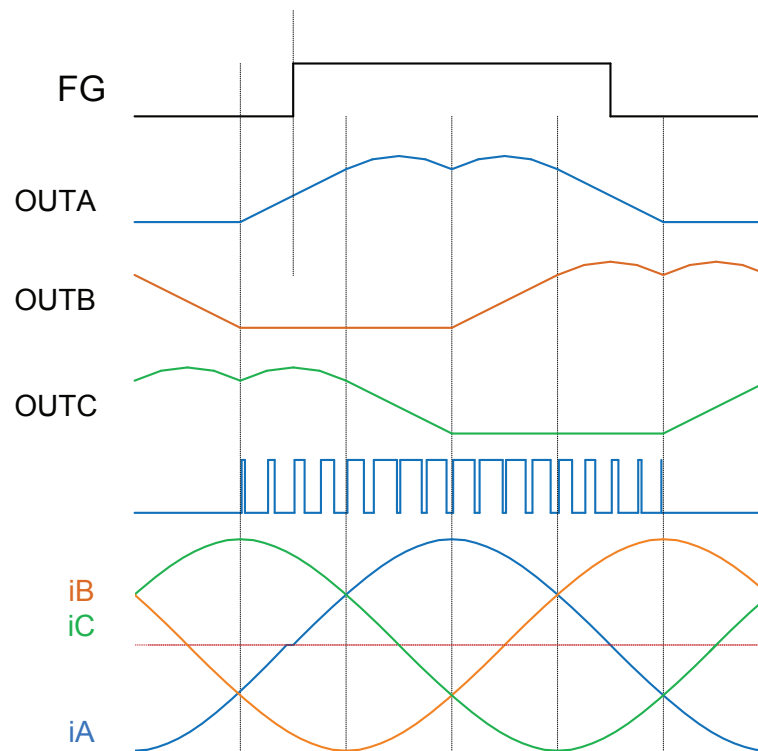

Figure 1: Sinusoidal PWM
This 9-bit "demand" is applied to a PWM generator block to create the modulation profile. The modulation profile is applied to the three motor outputs, with 120-degree phase relationship, to create the sinusoidal current waveform as shown in Figure 1.
**FG.** Open-drain output provides speed information to the system. For the default setting, FG changes state one period per electrical revolution of the motor (as shown in Figure 1).